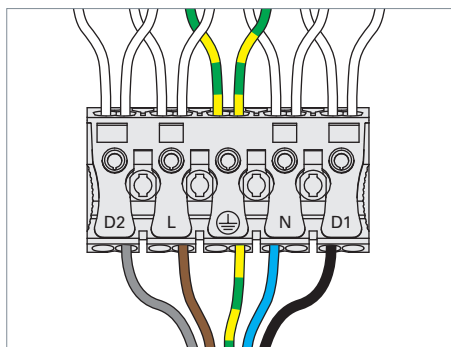

Fig. 5: Connecting the luminaire.
- Connect the wires of the connecting cable to the terminal on the luminaire frame, see Fig. 5.